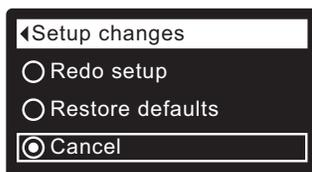

FIG. 101
7. Press the SELECT (O) button to display the Setup changes menu (See Figure 101).
8. If the desired option already has a dot next to it (See Figure 101), go to Step 9. Otherwise, press the DOWN (▼) or UP (▲) buttons to scroll to the desired option, then press SELECT (O) to choose it.